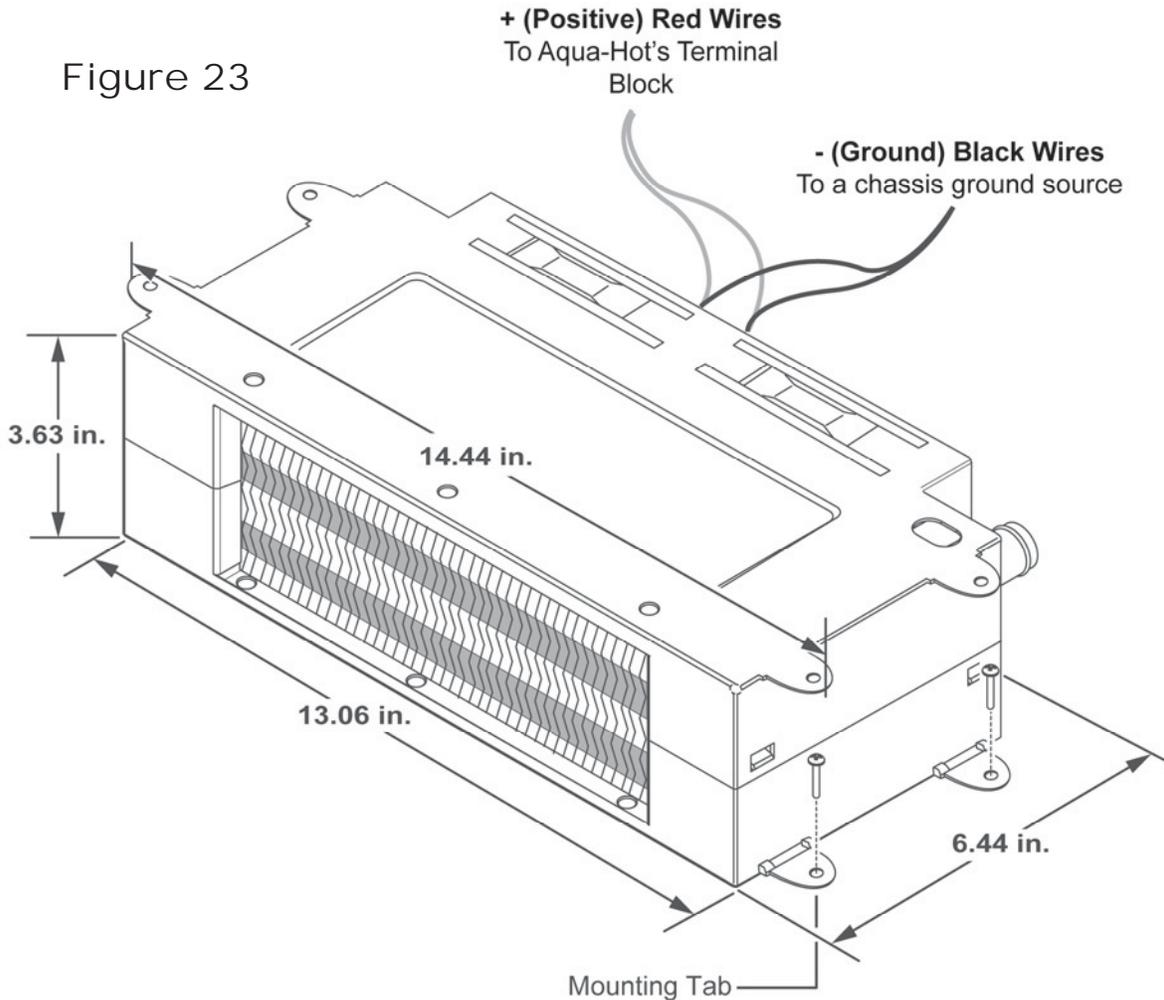

Figure 23
1. Within each heating zone, run an 18-gauge wire - black for negative, from each heat exchanger's black wire to the chassis ground source. Reference Figure 23.